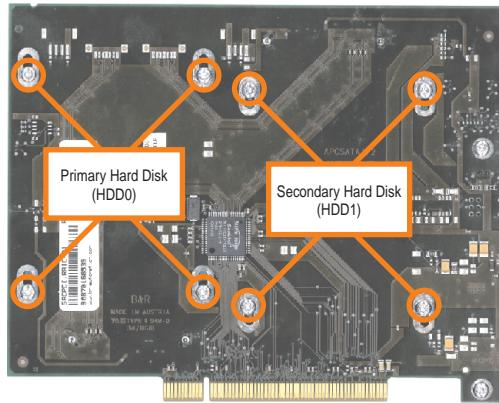

Figure 441: Screw assignment on the back side of the SATA RAID controller
- Loosen the 4 appropriate mounting screws (M3x5) - see Figure 441 "Screw assignment on the back side of the SATA RAID controller" on page 730.